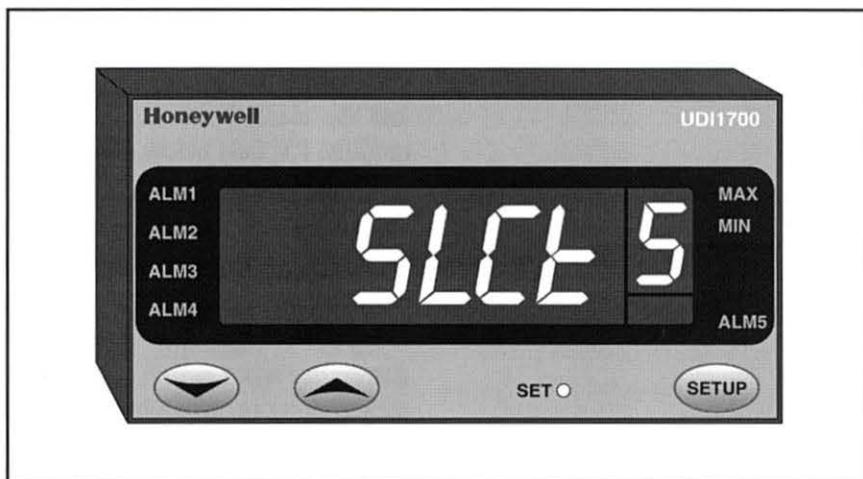

Figure 24. Honeywell UDI 1700 Meter in the Select Mode
**Step 1: Enter the Select Mode** - Pressing and holding the SETUP key and then pressing the up ▲ arrow key places the meter in the Select Mode, as shown in figure 24.